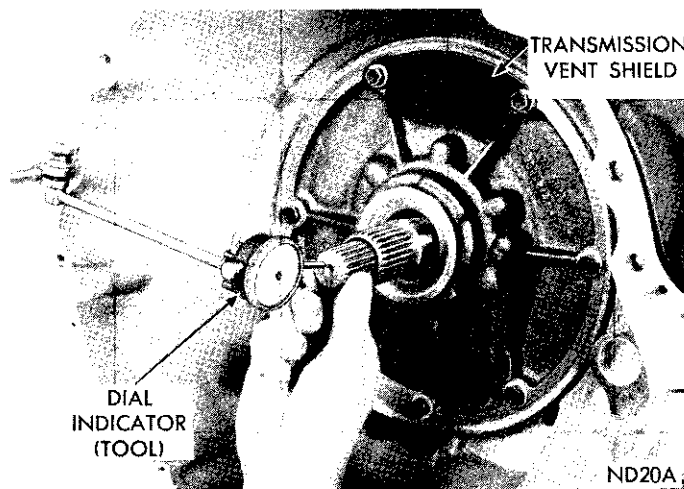

Fig. 34—Measuring Drive Train End Play
(1) Attach a dial indicator to transmission bell housing with its plunger seated against end of input shaft (Fig. 34).